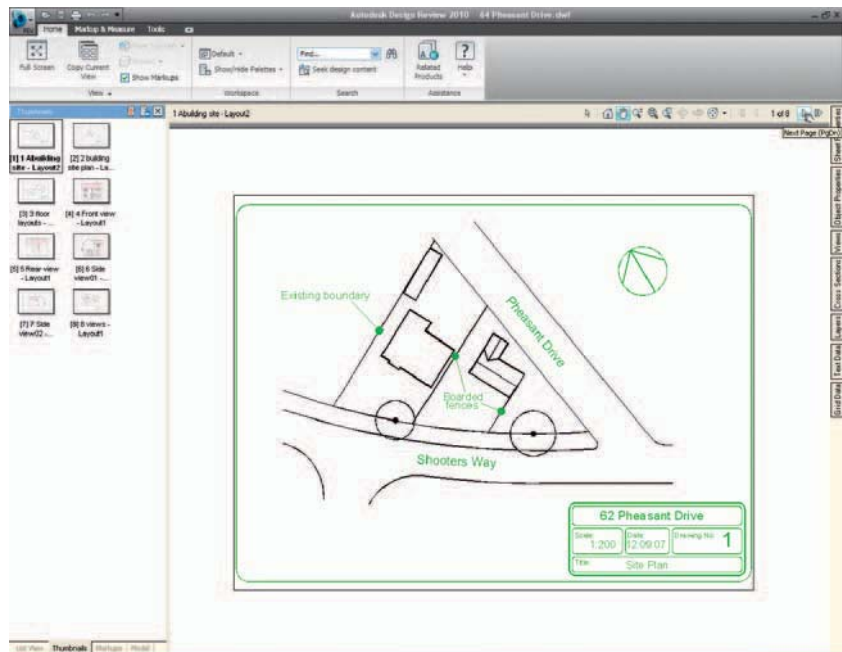

Fig. 11.14 The Autodesk Design Review showing details of the 62 Pheasant Drive.dwf file
2. The Autodesk Design Review window appears showing the **62 Pheasant Drive.dwf** (Fig. 11.14). Click on the arrow **Next Page (Page On)** to see other drawings in the DWF file.